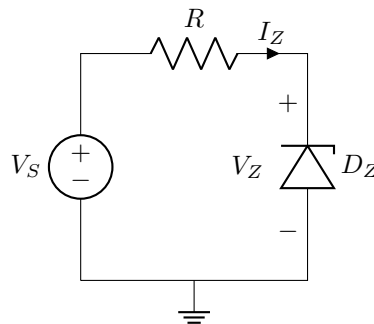

Figure 3: Zener diode characteristic measurement circuit. The Zener diode is reverse-biased with the cathode toward the positive supply.
You will now investigate the voltage regulation properties of a Zener diode operating in its breakdown region. Construct the circuit shown in Figure 3 using your Zener diode and a  $100\ \Omega$  resistor. Pay careful attention to the polarity: for the Zener to operate in breakdown, its cathode (the marked end) must be connected toward the positive terminal of the supply through the resistor, and its anode must be connected to ground. This is the reverse of normal diode operation.
4. For the Zener circuit in Figure 3, assume  $V_S = 10$  V,  $R = 100$   $\Omega$ , and  $V_Z = 5.1$  V (and assume this voltage remains constant in breakdown). Calculate (a) the current through the Zener diode, (b) the power dissipated by the Zener diode, and (c) determine whether this exceeds a 1 W power rating. Show all work.
5. Explain in your own words the difference between static (DC) resistance and dynamic (small-signal) resistance of a diode. Write the mathematical expression for calculating each type of resistance.